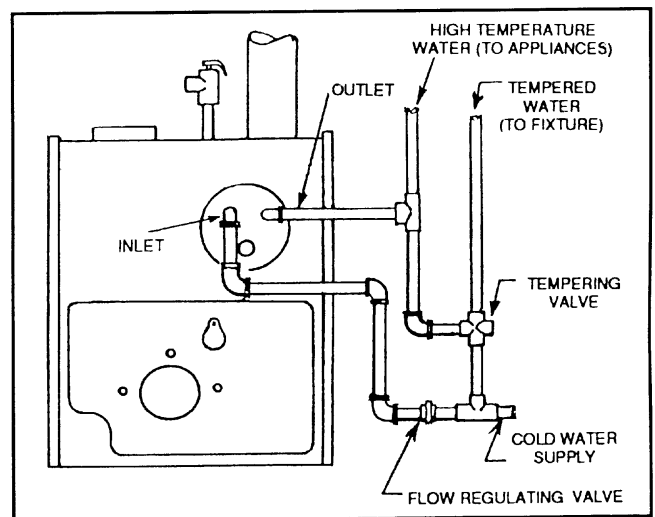

Figure 6. Recommended Piping to Tankless Heater
- II. Pipe the built-in tankless heater using the inlet and outlet tapplings indicated on the heater (figure 6).
- All readings MUST be taken at the test port in the flue adapter. See Figure 6 for test port location.